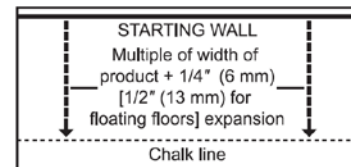

Figure 5
- Install parallel to the longest wall for optimal visual effects, unless the subfloor is reinforced to prevent sagging when installing perpendicular to the joists (Figure 5).